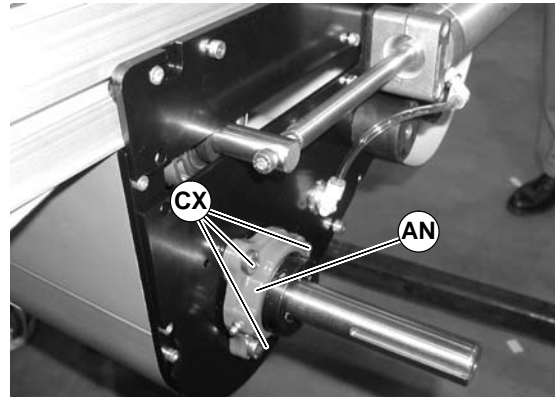

Figure 87
- Remove the three (3) mounting screws (CX of Figure 87).
- Remove and replace bearing housing assembly (AN of Figure 87).